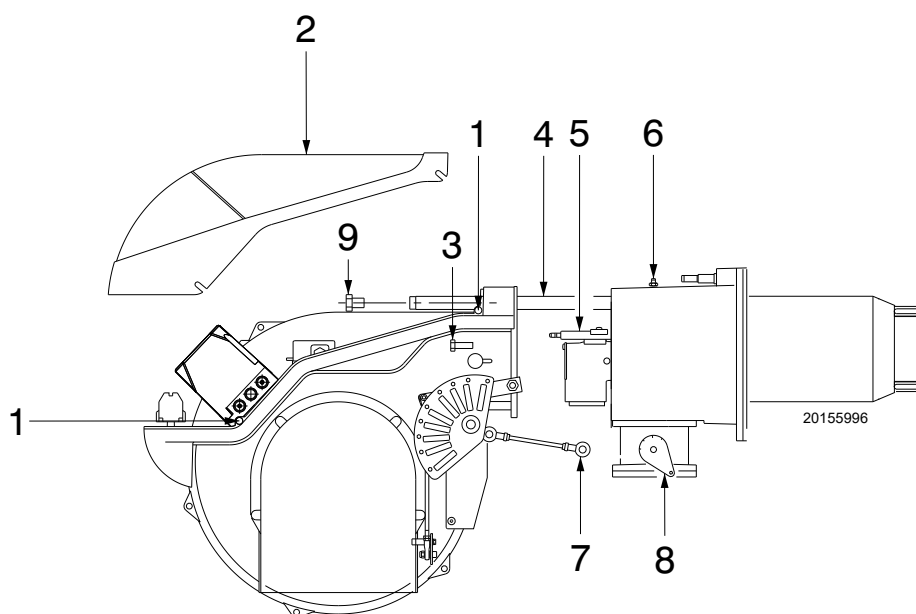

Fig. 39
Make sure the gas outlet holes for the ignition phase (in the distributor of the combustion head) are free of impurities or rust. If in doubt, remove the elbow (Fig. 39 on page 35).
- Loosen the 4 screws 1)(Fig. 39) and remove the hood 2).
- Replace the screws 3)(Fig. 39) and carefully pull the probe and electrode cables out until they are slightly taut.
- Reconnect the articulated coupling 7)(Fig. 39) to the graduated sector 8)(Fig. 39).
- Remove the two extensions from the slide bars 4)(Fig. 39).